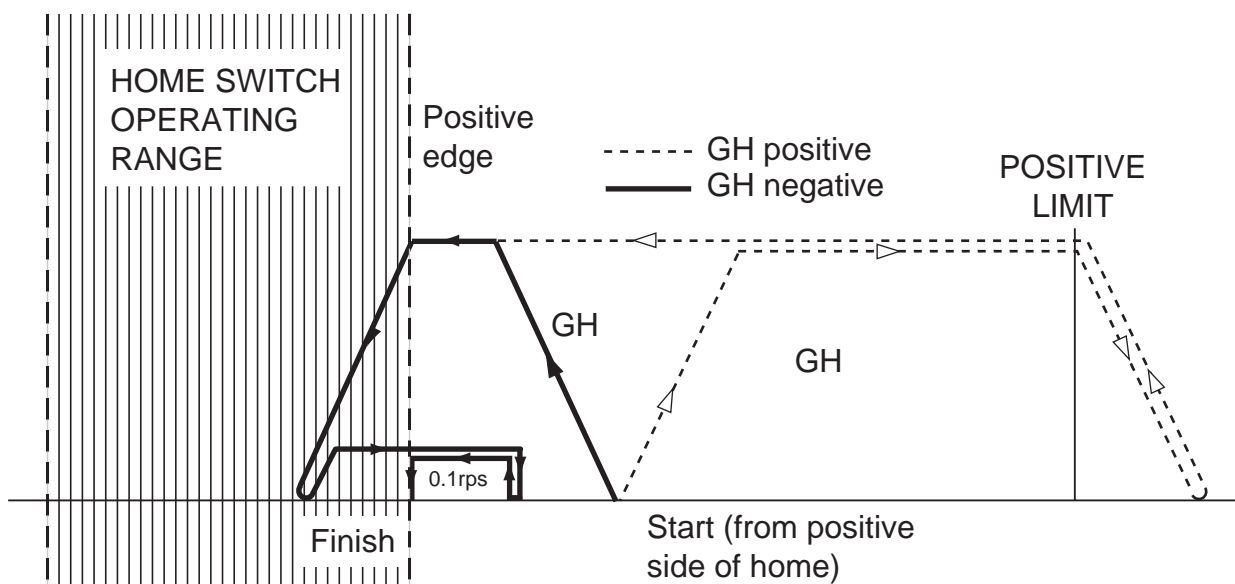

Figure 4-8. Go Home to Positive Edge
The go home command (GH) is used to return to the reference home position. Issuing a GH command will cause motion in a direction defined by the HOME configuration command. Figure 4-8 shows the path taken if motion was started between the positive edge of the home switch and the positive limit (positive side of home). The dotted line represents positive movement and the solid line negative, although once past the positive edge of the home switch both merge to follow one common path. Positive movement results in motion towards the positive limit, once the limit is hit motion is reversed* and finally heads for the home switch. Negative motion will immediately head for the home switch.